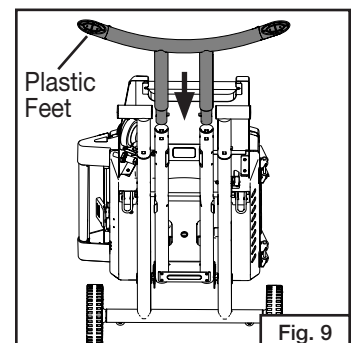

Fig. 9
- Press buttons on towing handle and push in until the buttons lock into place. (Fig. 9)